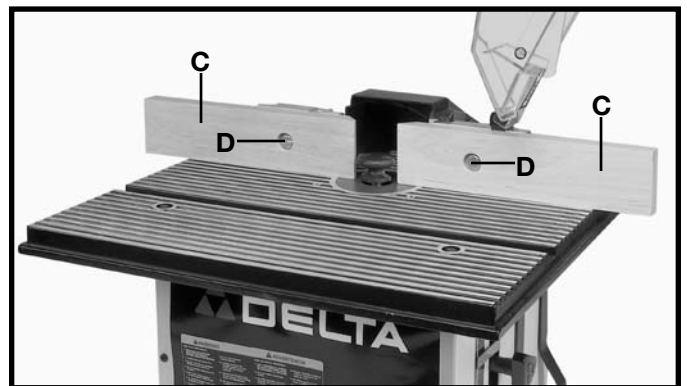

Fig. 19
To adjust each wooden fence half (C) Fig. 19, for side to side movement, loosen screw (D) and move wooden fence (C) as needed. **IMPORTANT:** Each wooden fence half (C) should be adjusted as close to the cutter as possible, without touching. Once adjustments are made, retighten screw (D).